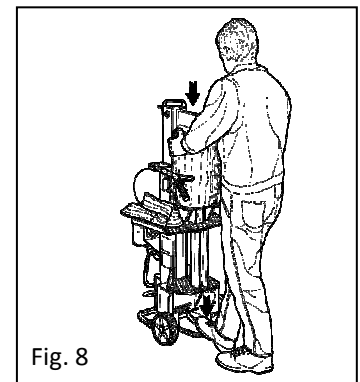

Fig. 8
2. **operation:** press the pedal placed below with foot (see fig. 8). It is advisable to make a quick and strong movement.